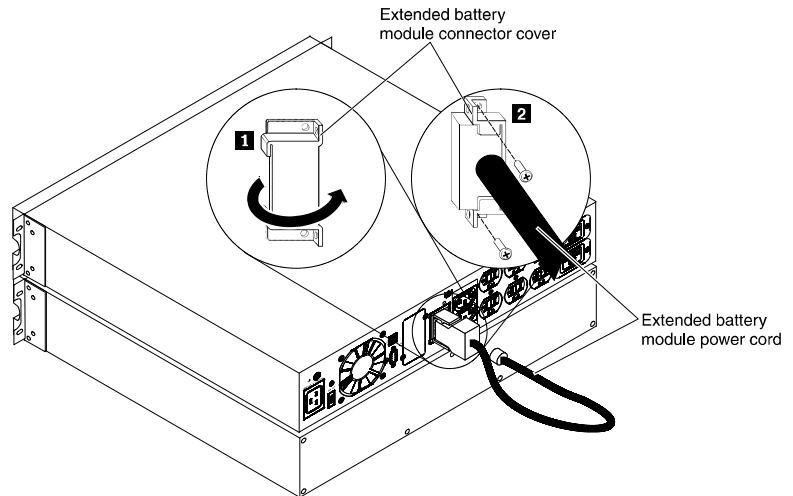

Figure 4. Connecting the EBM
5. Align the EBM power cord with the EBM connector on the UPS. Firmly press the power cord into the UPS. See Figure 4.
6. To provide strain relief and a secure connection for the EBM power cord, reinstall the EBM connector cover [1] and screws [2] that you removed in Step 1. See Figure 4.